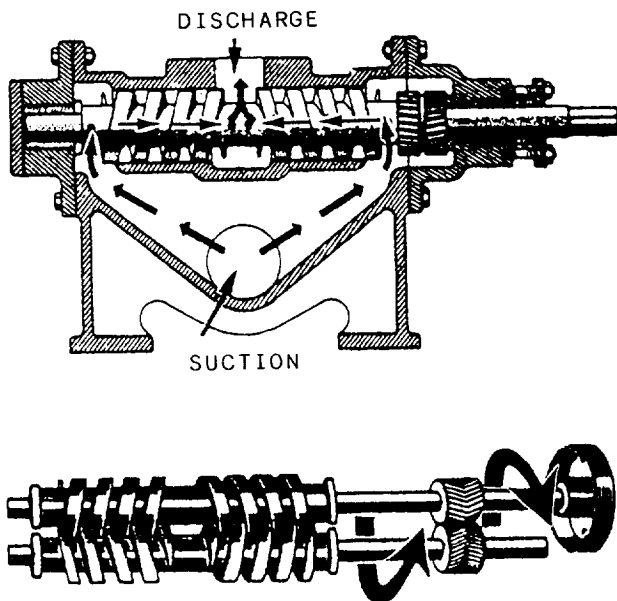
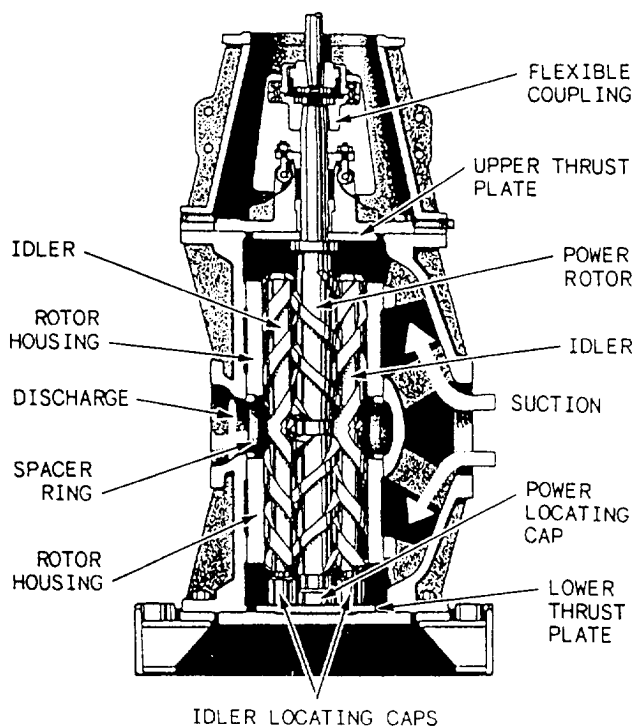

Figure 9-10.—Double-screw, low-pitch pump.
Figure 9-11.—Triple-screw, high-pitch pump.
**SCREW PUMPS.**— Several different types of screw pumps exist. The differences between the various types are the number of intermeshing screws and the pitch of the screws. Figure 9-10 shows a double-screw, low-pitch pump; and figure 9-11 shows a triple-screw, high-pitch pump. Screw